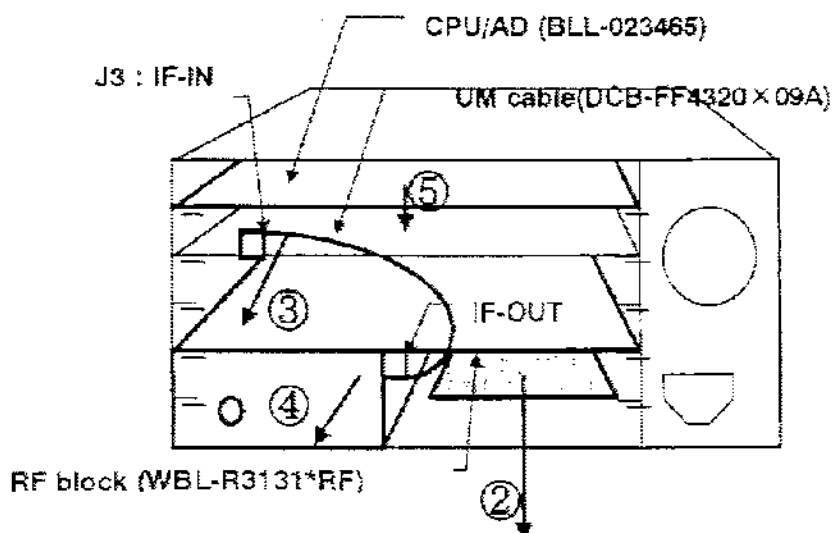

Fig.9
- ② Remove case below RF block.(Refer to Fig.9)
- ③ Remove UM-UM cable between IF block and RF block.
(Refer to Fig.9)
- ④ Pull RF block off from main frame.(Refer to Fig.9)
- ⑤ Pull CPU/AD board off from main frame.(Refer to Fig.9)